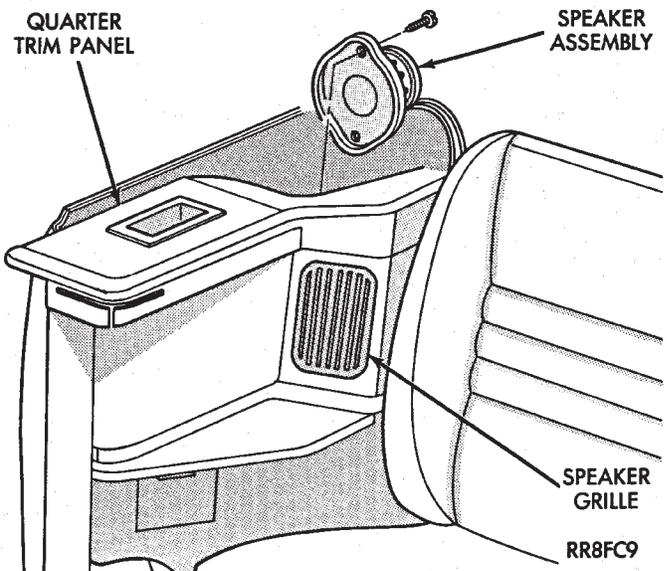

Fig. 28 Rear Speaker—AJ Body
- (1) Move folding top to UP position.
- (2) Unsnap sling well from tacking strip and fold-out of the way to gain access to speaker.
- (3) Lower folding top to improve speaker accessibility.
- (4) Remove two speaker retaining screws (Fig. 28).
- (5) Disconnect wiring and pull out speaker.
- (6) For installation reverse above procedures.